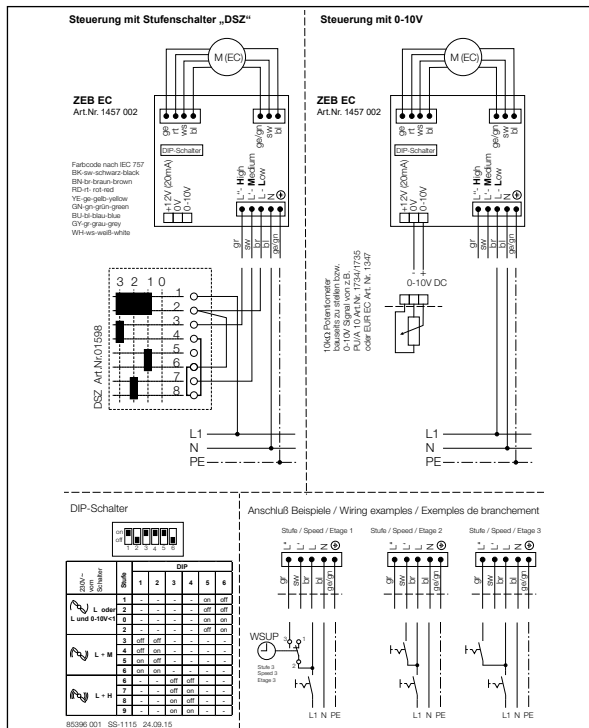

Fig.1
Fully isolate the unit from the power supply for this purpose. Open cover as shown in Fig. 1 and select the stages. These are set via S1 ... S4 according to SS-1115. The assembly takes place in the reverse order.
- **Disassembly:** Turn the fan cover so that the recess in the cover is at the press opening. Then loosen the click connection in the middle using a screwdriver and remove the cover (see Fig. 1).
- **Disassembly:** Insert a screwdriver (approx. 8 mm) between a click connection of the fan part and the fan casing and move the fan part upwards slightly (see Fig. 1). The click connection will detach itself. Loosen the other click connections using a screwdriver and remove the fan part upright from the fan casing.